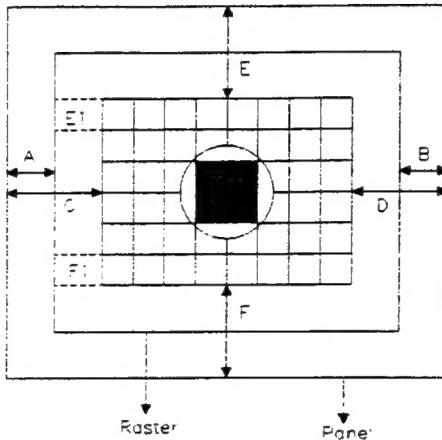

Figure 7
2. Adjust VR403 let  $A-B = 0 \pm 1$  mm (See Fig 7).
- (7) DYNAMIC FOCUS CHECK
3. Press + or — to adjust Vertical center  $\leq 2$  mm. (See Fig 7,  $|E-F| \leq 2$  mm)
- (10) HORIZONTAL WIDTH ADJUSTMENT
3. Press + or — to adjust Horizontal phase  $\leq 2$  mm. (See Fig 7,  $| C-D | \leq 2$  mm)
(12) PINCUSHION ADJUSTMENT